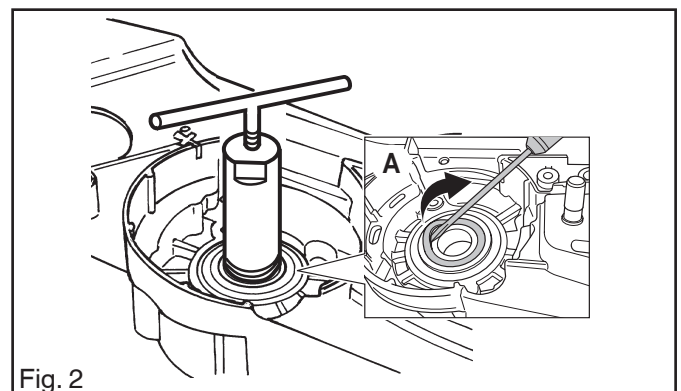

Fig. 2
3. If necessary, remove the seal on the flywheel side. See fig. 2, pos. A. Use flywheel removal tool (Refer to pos. 7 "3 Service tools" on page 8) . See fig. 2.